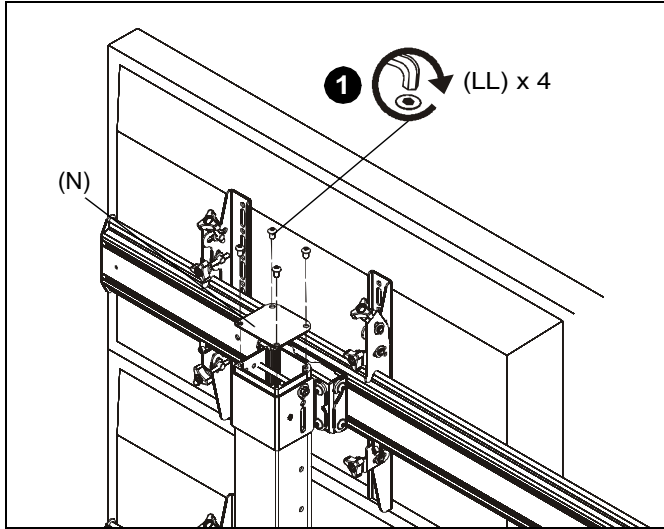

Figure 19
1. Use four 5/16-18 x 1/2" button head cap screws (LL) to install each column cap (N) to each column. (See Figure 19)